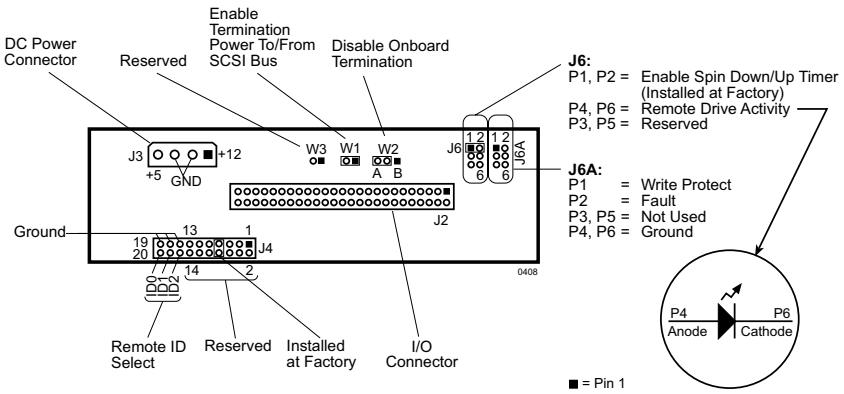

Figure 5: Receiving Frame (Rear View)
- **Device Spin Down/Up Timer:** May be disabled by removing Jumper J6 P1-P2 (Figure 5). The timer controls the length of time that the unit number display flashes during device spin down/up, providing a visual indication of drive activity. Refer to Figure 11 for switch settings.
(Figure 5)
6. To connect the drive to a Remote Activity LED in the computer system or expansion chassis, connect the appropriate cable(s) to the receiving frame mother board as shown in Figure 5. Connect J6 Pins 4 & 6 to a remote activity LED.
7. Connect the I/O cable from the host adapter to the receiving frame. The Pin 1 indicator on the cable must be properly aligned. Refer to Figure 5 for the correct Pin 1 location.
Make sure that only the last SCSI device is terminated. If the DE100i-S is at the end of a daisy chain, the terminators on the receiving frame **must** be enabled. If the DE100i-S is in the middle of a daisy chain, termination should be disabled (factory default). Refer to jumper W2 in Figure 5.
8. Connect the power cable from the DC power supply in the computer or expansion chassis to the power connector on the DE100i-S receiving frame. Refer to Figure 5 for the receiving frame power connector location.